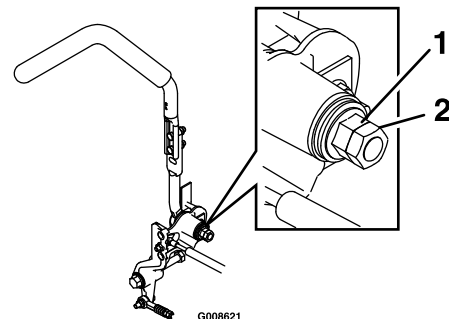

Figure 63
2. Loosen the jam nut (Figure 63).